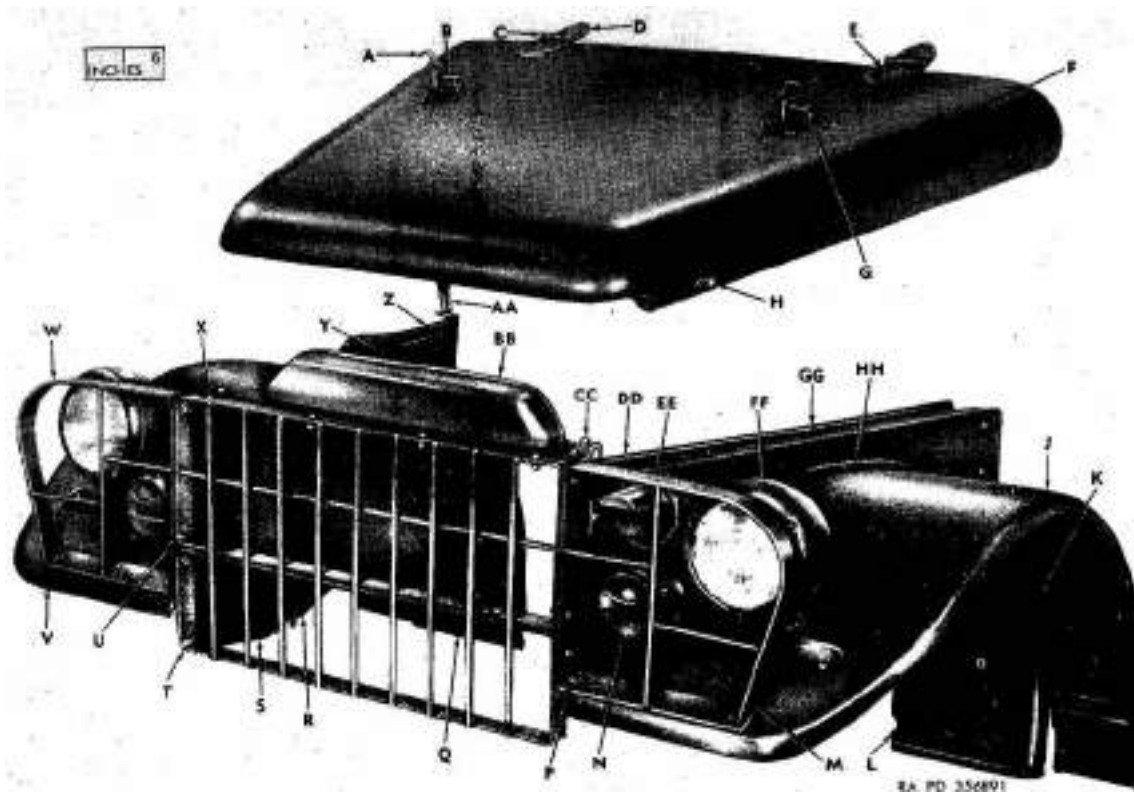

Figure 218. Hood, front, fenders, guards, and related parts.
a. Hood Assembly (fig. 218). The hood assembly (F) is a one piece alligator-type attached to the cowl and opens from the front. Spring loaded locks, which hold hood in closed position, are provided at the front end. A hood safety catch assembly (AA) was added at the front end, starting with truck serial number 80017625.
b. Front Fender Assemblies (fig. 218). The front fender assemblies (J and V) are heavy-gage steel stampings with rolled edges for increased rigidity. The fenders are mounted independently of the body on front and rear brackets.
d. Radiator Guard and Headlight Guards (fig. 218). The radiator guard (U) and headlight guards (M and W) are provided to protect the lights and radiator against brush damage. The guards are constructed of heavy-gage steel straps and bars.